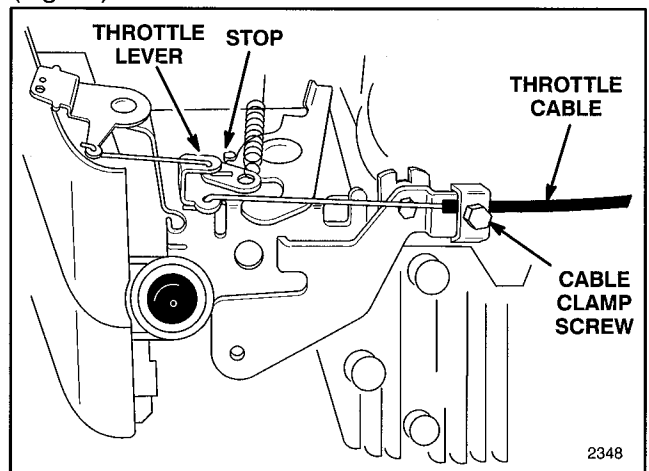

Figure 23
2. Loosen cable clamp screw until throttle cable slides (Fig. 23).
4. Move throttle cable until lever contacts stop (Fig. 23).